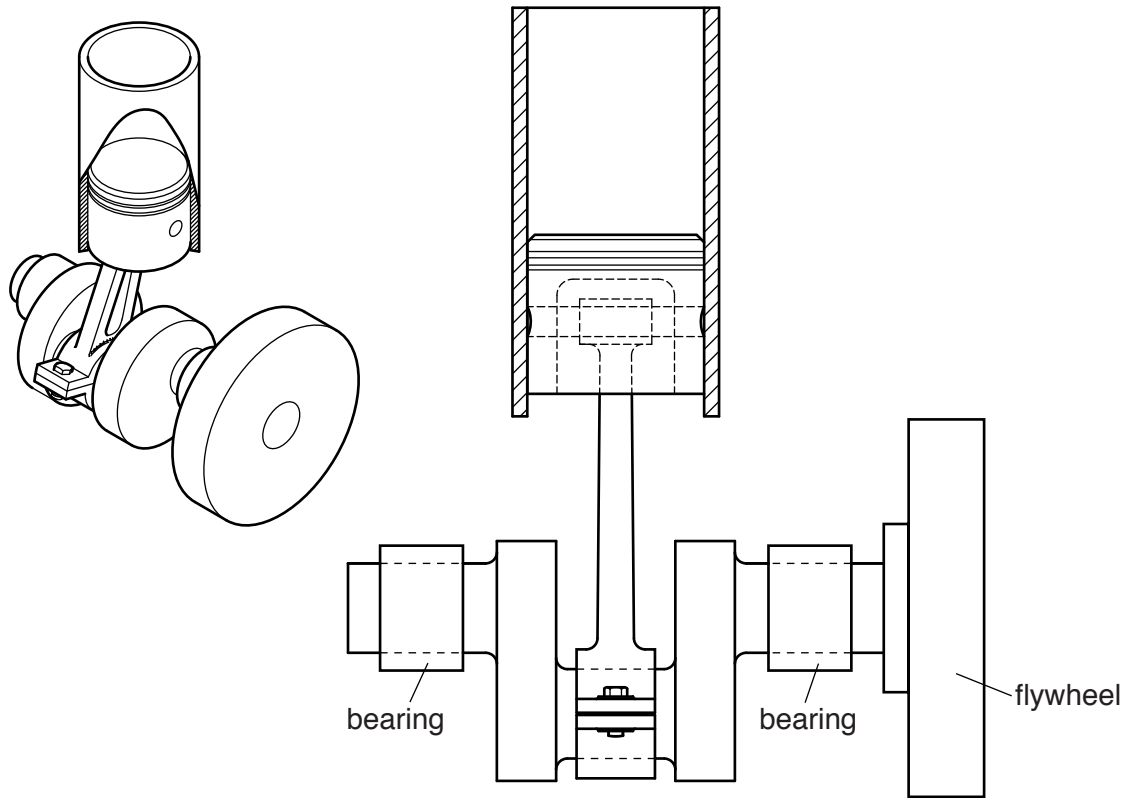

Fig. 11
(d) Fig. 11 shows the main parts of a single cylinder internal combustion engine.
- (i) Indicate on Fig. 11 the following parts:
- (iii) Draw on Fig. 11 to show **two** places where lubrication would be required.